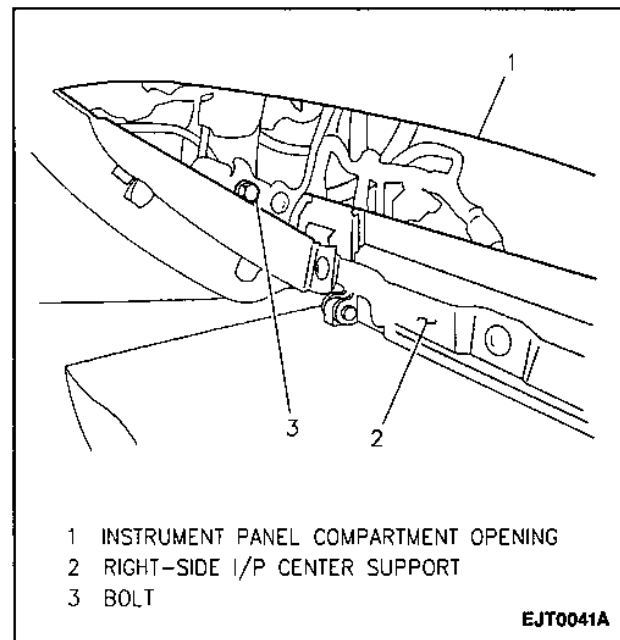

Figure 17—Right-Side Instrument Panel Center Support
5. Two bolts and right-side instrument panel center support (Figure 17).